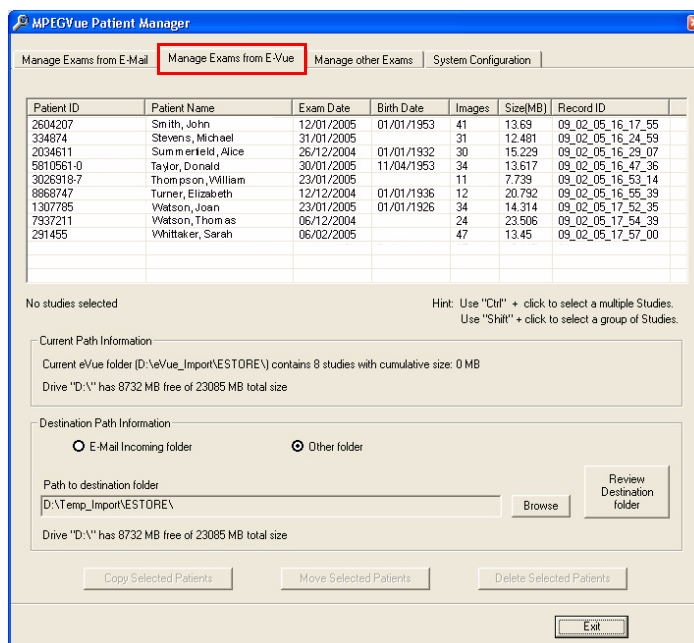

Figure 3-190 MPEGVue Patient Manager Window - Manage Exams from E-VueTab
a.) Make sure the Manage Exams from Evue tab is activated as shown in Figure 3-190.